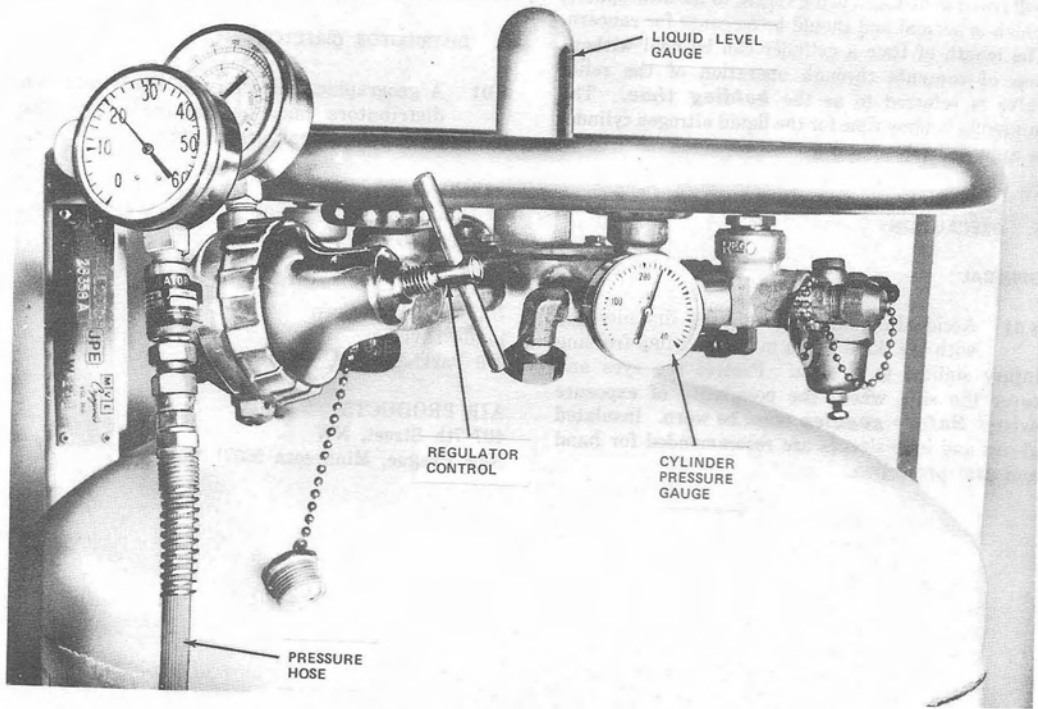

Fig. 9—Connections Completed
- (5) Allow the operating pressure of the cylinder to reach approximately 200 psi. This pressure will be indicated on the **cylinder pressure gauge** shown in Fig. 9.
(6) Adjust for the desired outlet pressure by turning the **regulator control** slowly clockwise (Fig. 9).
(7) Observe the **liquid level gauge** to determine the quantity of liquid in the cylinder.